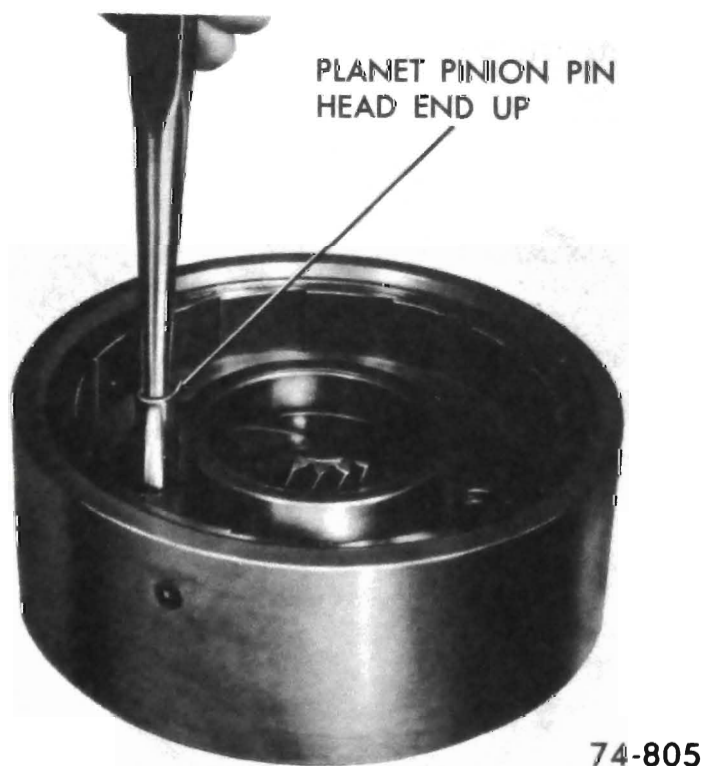

Figure 76-119
9. Drive a new pinion pin into place while rotating pinion from the front, being sure that the headed end is flush or below the face of the carrier. See Figure 76-119.